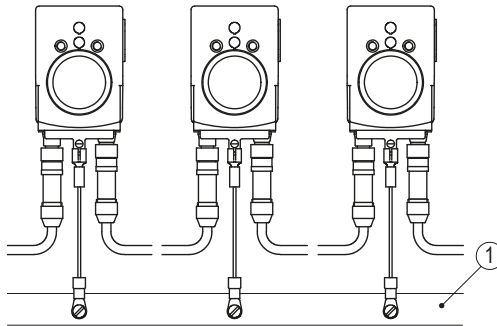

Fig. 6: Ground bar
For protection against interference, the screens of the signal lines and the power line must be connected on both sides. Potential differences cause inadmissible currents on the screen. Install the ground connection ③ onto the protective ground conductor potential between the plug connectors (see Fig. 5). Use 6.3 mm flat connectors or cable lug with short strands 2.5 ... 4 mm² (not in the scope of delivery). For multiple setpoint displays we recommend connecting the grounding to a ground bar ① (see Fig. 6).